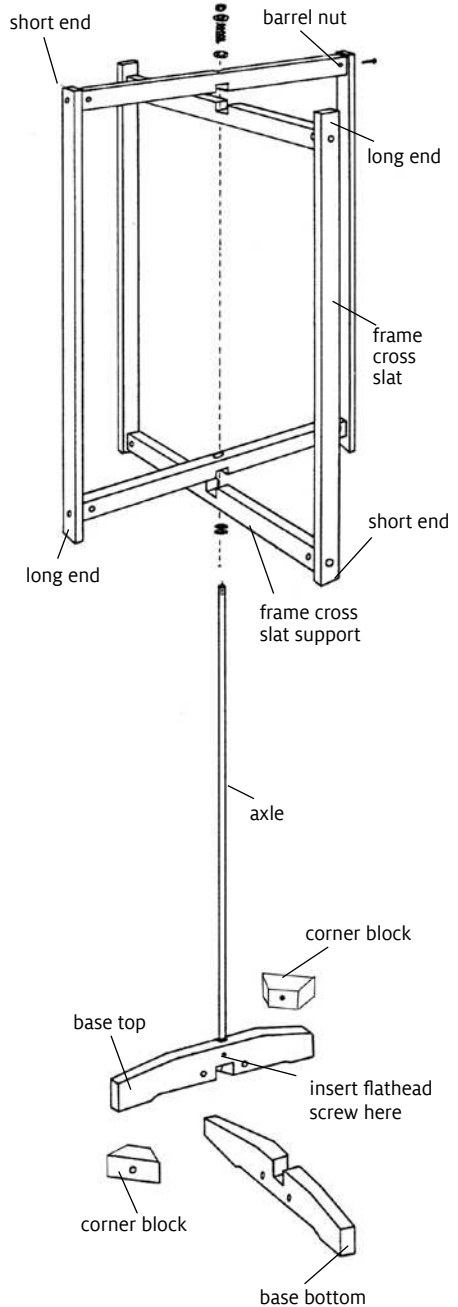

FIGURE 2
1. Assemble one frame completely. Orient the frame sides with the countersunk holes to the outside. Place 1-3/4" machine screws in the countersunk holes and secure with barrel nuts (figure 2). Make sure the notches in the center of the cross pieces face in the same direction.
2. Assemble three of the four corners of the second frame, and then interlock this second frame with the first frame. The notches on the first and second frames should face each other so that the two frames will fit together (figure 2). Now fasten the remaining corner of the second frame.